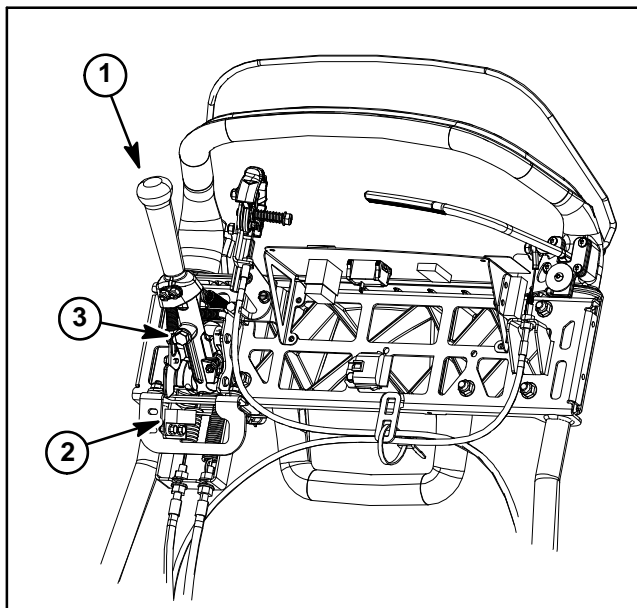

Figure 9
4. With the traction drive engaged, there should be from 0.030" to 0.090" (0.8 to 2.3 mm) clearance between the head of the cap screw in the traction lever and the traction switch (Fig. 9).